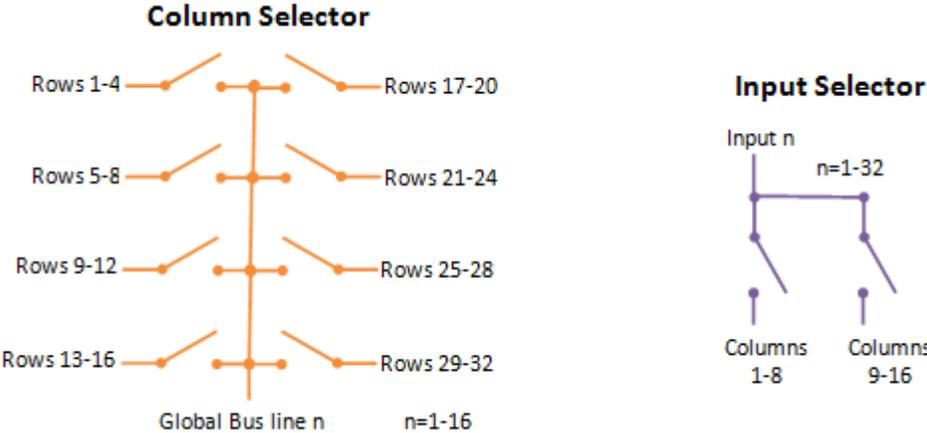

Figure 2-15: Schematic Diagram for RTM Selectors
- The input selector switches an Input channel from a BNC connector to one of two groups of columns: 1-8, 9-16. These numbers are related to the global bus signals. Figure 2-15 includes a logic schematic of an input selector.
- The column selector switches a global bus signal to one of eight sets of rows: 1-4, 5-8, 9-12, 13-16, 17-20, 21-24, 25-28 or 29-32. These numbers are related to the input channels. Figure 2-15 includes a logic schematic of a row selector.